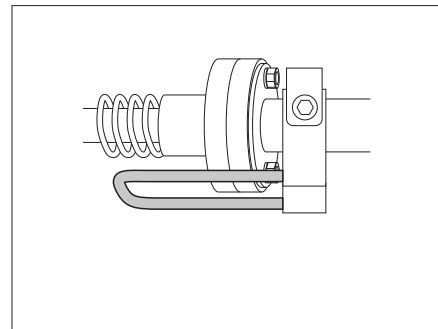

Fig. 152 Locking lever in the secured position
- ▶ Before using the bed check whether the locking lever is located in the secured position (Fig. 152).
- Set the locking lever to the secured position (Fig. 152).